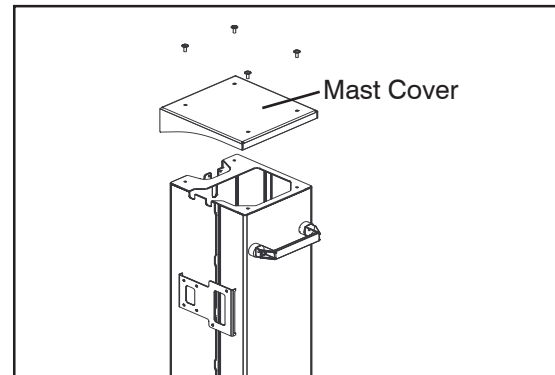

Figure 5-7. Mast Cover Removal
1. Remove the mast cover. See Figure 5-7,